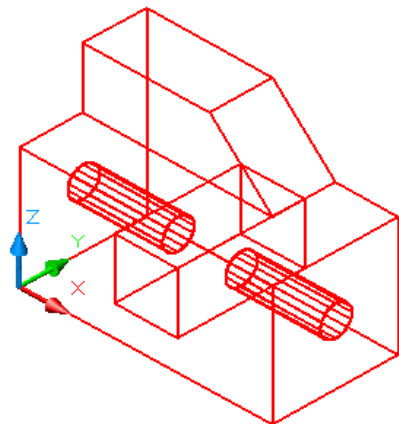

Figure Step 6
Step 6 Set the view to SE Isometric, the current visual style to 3D Wireframe and the UCS in World. (Figure Step 6)